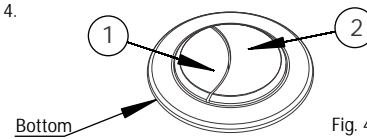

Fig. 4
To set of half flush, press the smaller button (1), to set the full flush, press the larger button (2). Fig. 4.